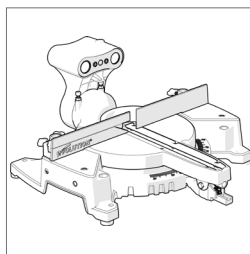

Fig. 1a
- The Base and Bevel Neck. **(Fig. 1a)**